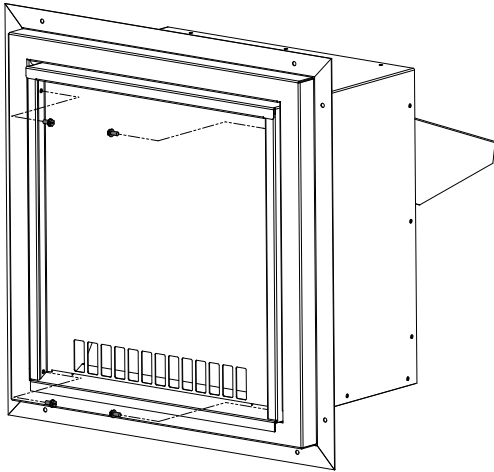

Figure 10: Front cover screws
1. Remove the termination's front cover by removing the four (4) screws using a 1/4" nut driver. See Figures 10 & 11.